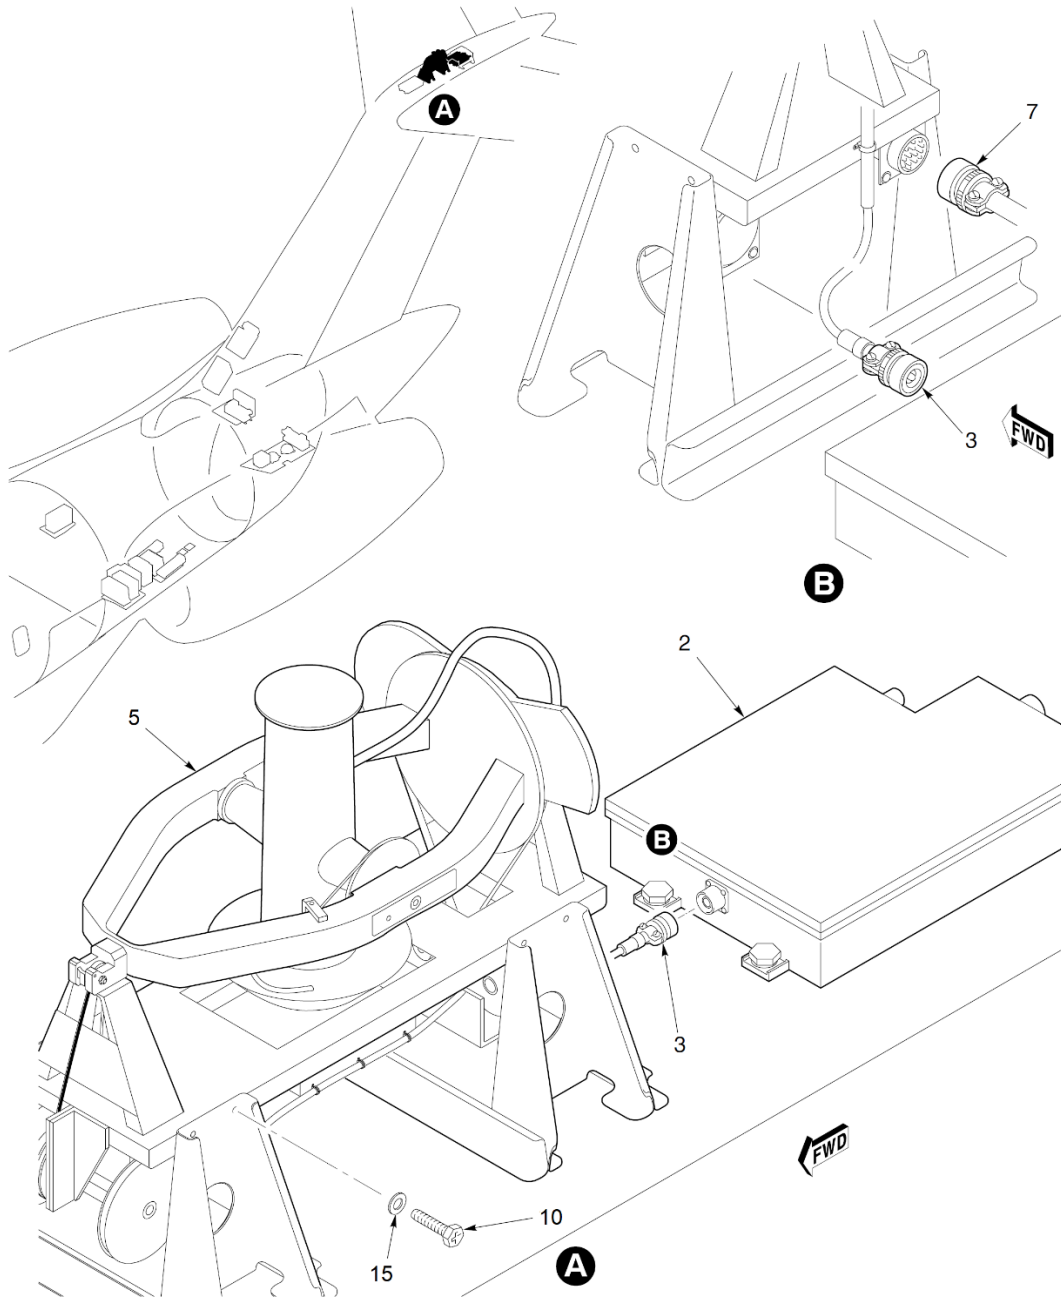
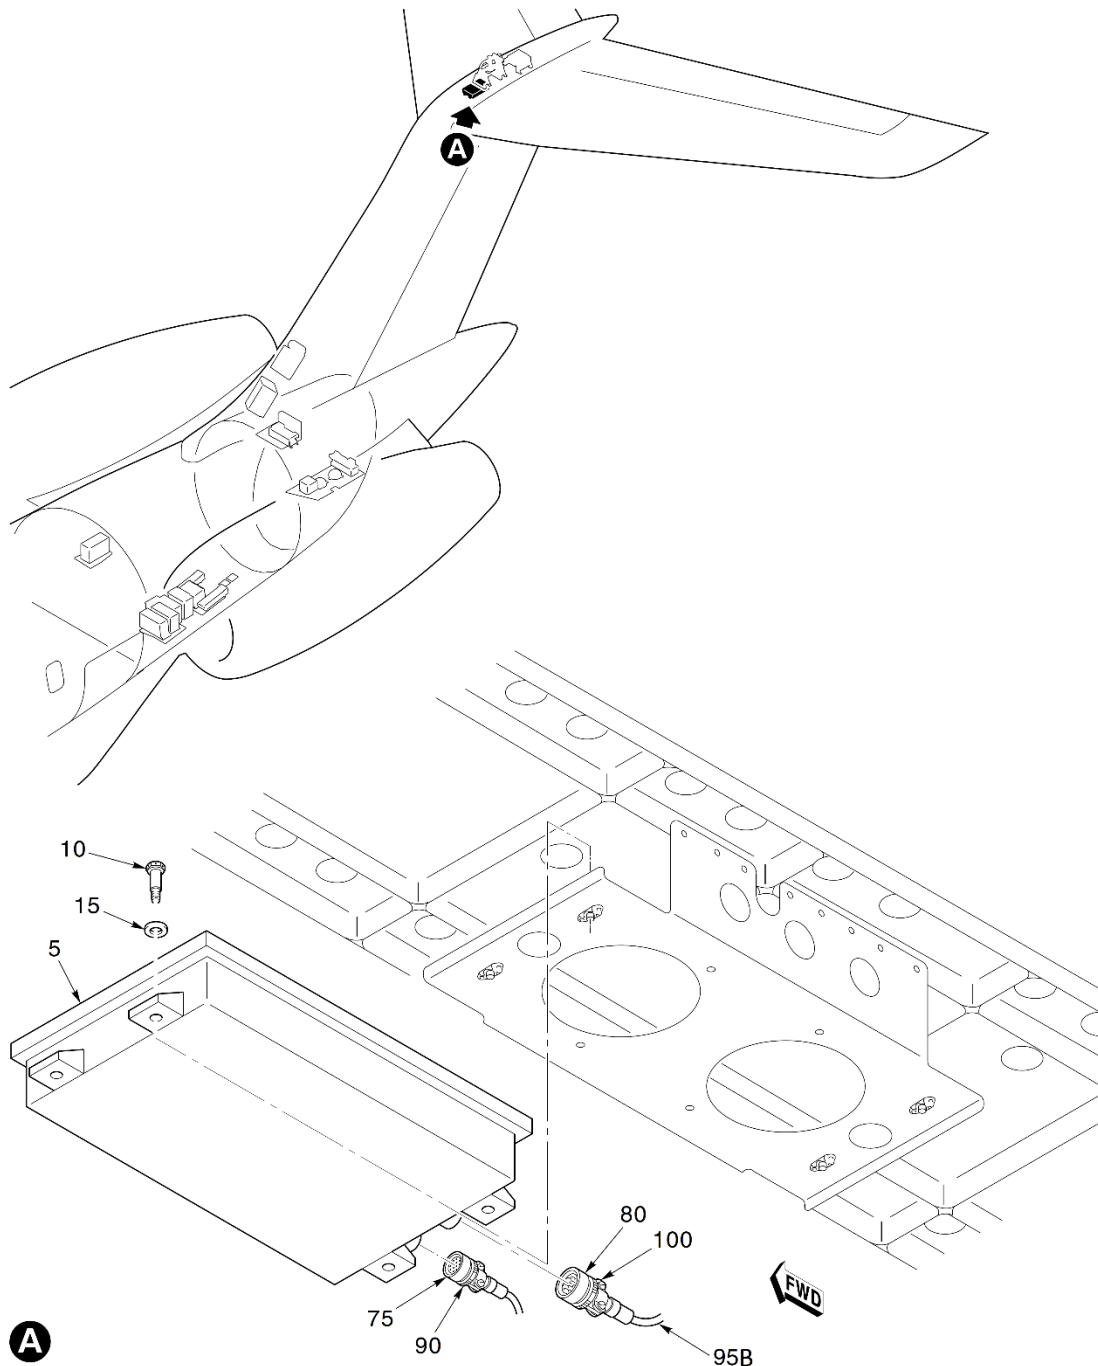
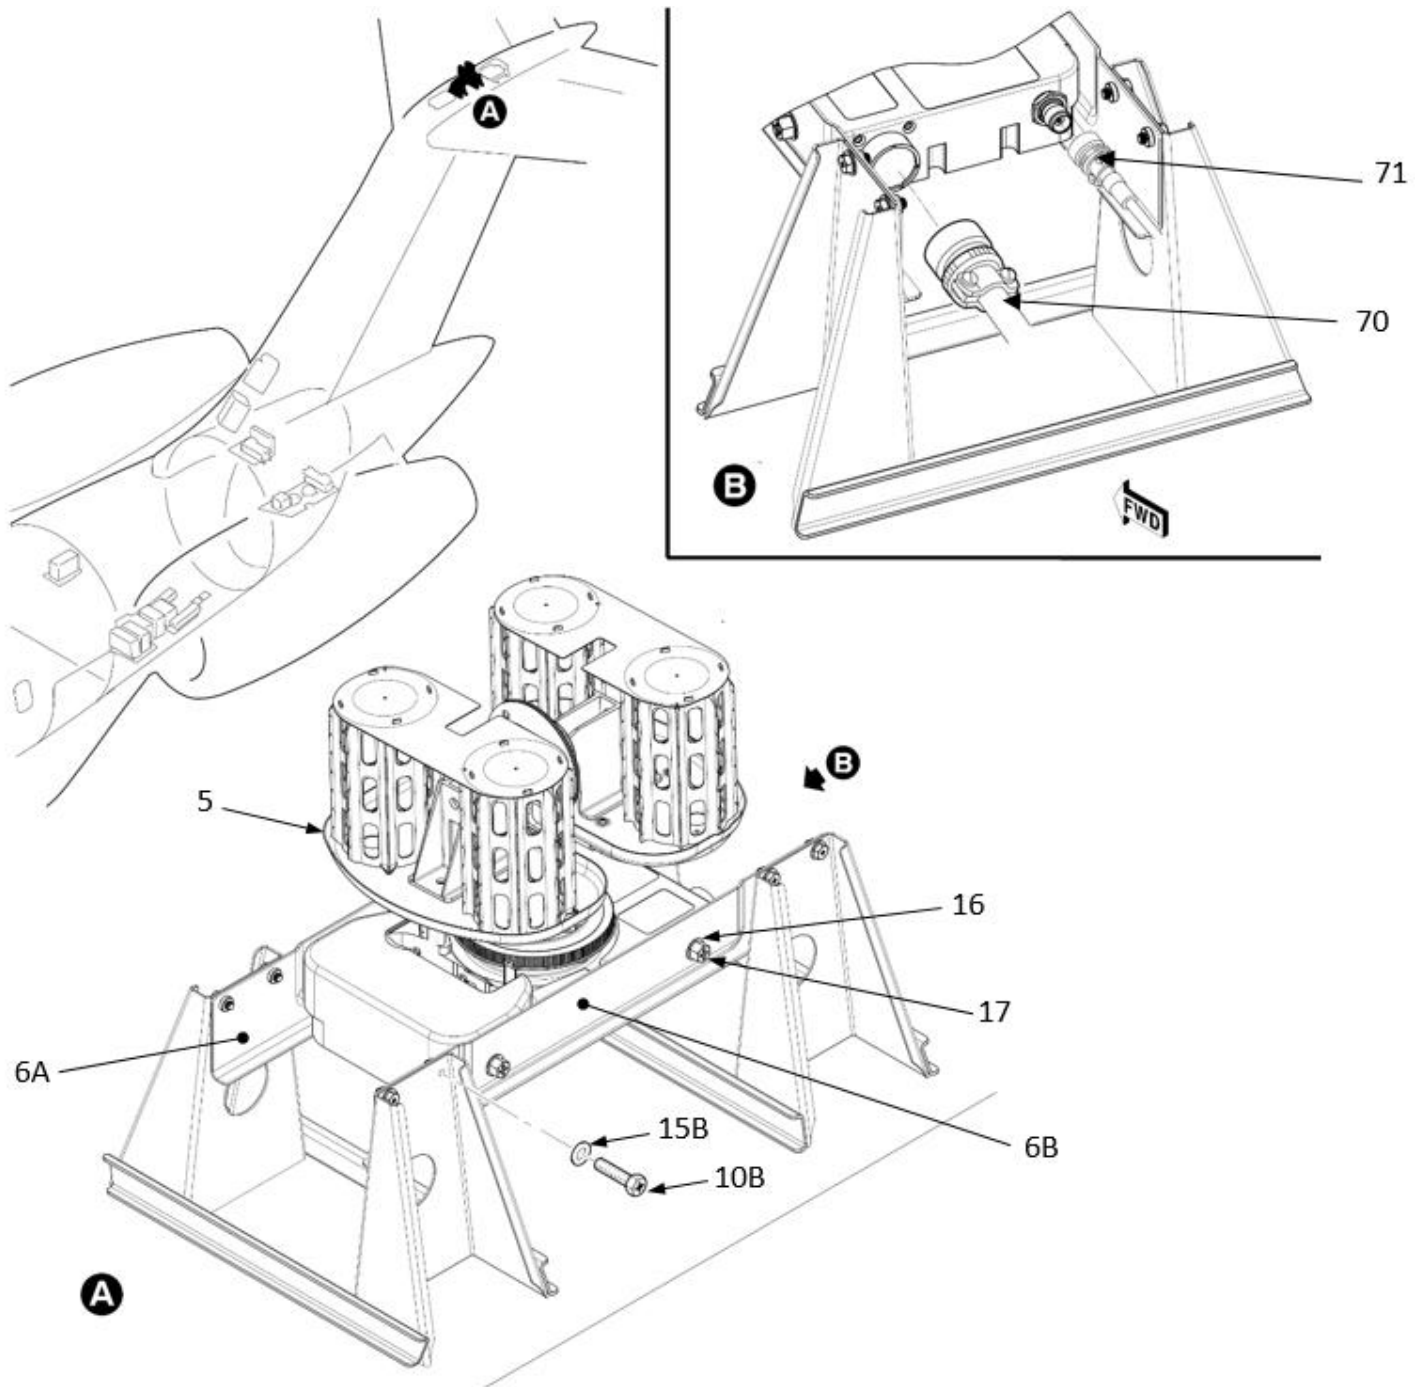
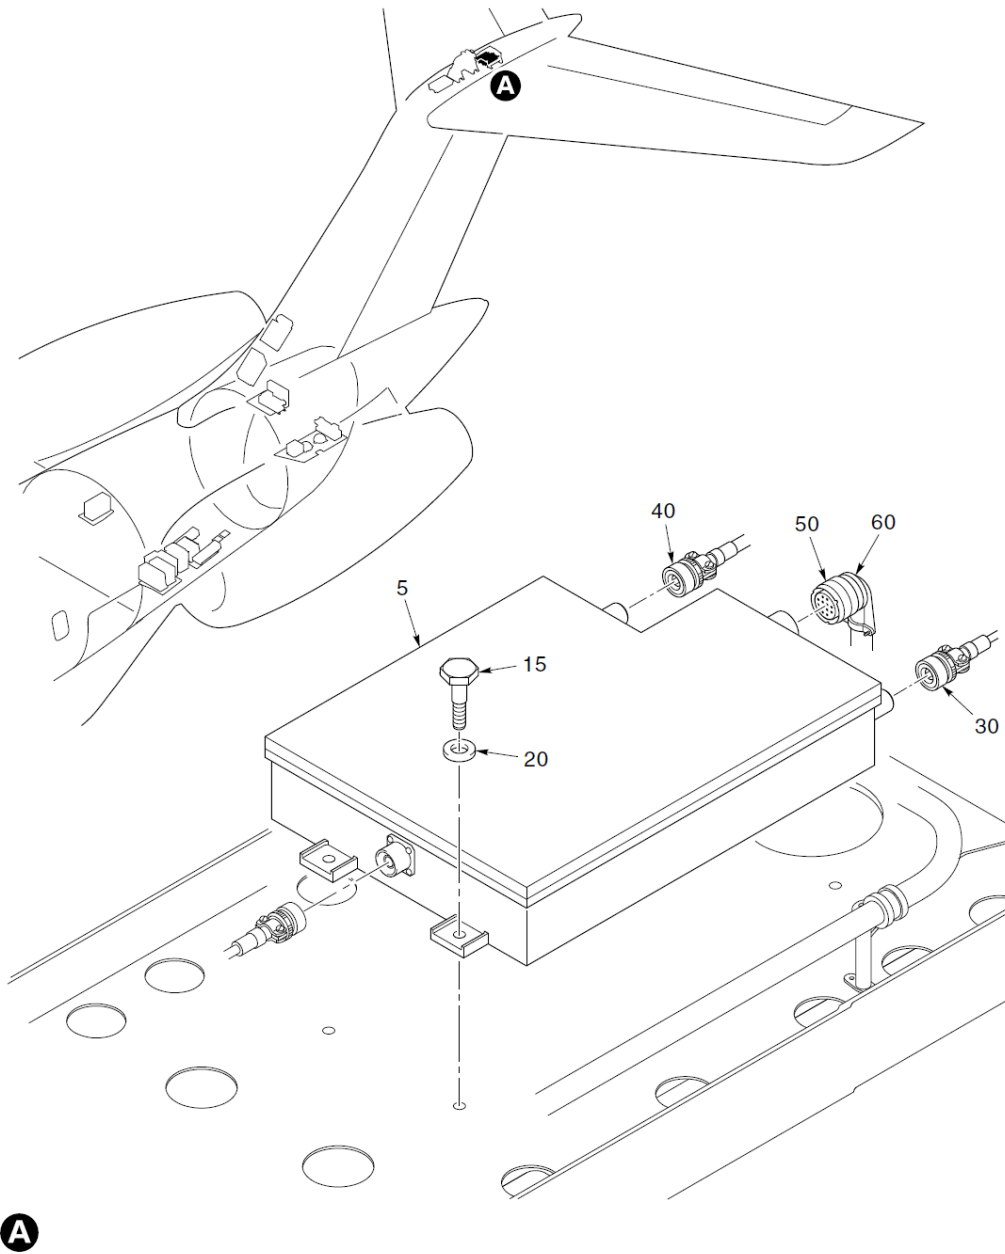

Figure 1: Original Antenna Removal in Vertical stabilizer tip – **FOR ILLUSTRATION ONLY**
Figure 2: ACU in Vertical stabilizer tip – FOR ILLUSTRATION ONLY
Figure 3: Assembly Installation in Vertical stabilizer tip – **FOR ILLUSTRATION ONLY**
Figure 4: DLNA in Vertical stabilizer tip – **FOR ILLUSTRATION ONLY**
Suitable configuration of the mounting of the AMT 50 antenna (see example of suitable configuration on Figure 1)
5.2.2 Disconnect existing connector (Figure 2, Item Number 80) from ACU port labeled J2.
5.2.3 Disconnect existing connector (Figure 4, Item Number 50) from port J4 of the DLNA (Figure 1, Item Number 2).
5.2.4 Disconnect existing connector (Figure 1, Item Number 7) from port J1 of the AMT 50.
5.2.5 Unscrew and release all cable clamps on several places along the path of the cable (Figure 2, Item Number 95B)
5.2.6 Physically remove the cable (Figure 2, Item Number 95B)
5.2.8 Disconnect existing RF connector from DLNA port labeled J1. (Figure 1, Item Number 3)
5.2.10 Disconnect existing connector (Figure 2, Item Number 75) from ACU port labeled J1.
5.3.1 Identify installation location (see Figure 3 for reference).
5.3.2 Mount Brackets (Item Number 6A and 6B, Figure 3) to Antenna, using screws and washers (Item Numbers 16 and 17 respectively, Figure 3) loosely fitted.
5.3.3 Mount Brackets with Antenna to aircraft structure, using screws and washers (Item Numbers 10B and 15B respectively, Figure 3) loosely fitted. For screws (Item Number 10B) apply small amount of threadlocker.
5.3.4 Torque screws (Item Number 10B, Figure 3) to 36-40 in-lbs / 4.0-4.5 Nm.
5.3.5 Torque screws (Item Number 17, Figure 3) to 75-84 in-lbs / 8.5-9.5 Nm.
5.3.6 Connect Power and Data Cable J3 (Item Number 70, Figure 3) to Antenna J1 (Item Number 5, Figure 3)
5.3.7 Connect Power and Data Cable plug connector J1 (Item Number 70, Figure 3) with existing connector (Figure 2, Item Number 75)
5.3.10 Connect Power and Data Cable connector J2 (Item number 70, Figure 3) to DLNA port labeled J4 (Item number 5, Figure 4). Use existing cable clamps to secure the new cable to the airframe.
5.3.11 Connect Power and Data Cable J2 (Item Number 70, Figure 3) to DLNA J4 (Item Number 5, Figure 4)
5.3.12 Connect RF Cable J2 (Item Number 71, Figure 3) to Antenna J2 (Item Number 5, Figure 3)
5.3.13 Connect RF Cable J1 (Item Number 71, Figure 3) to DLNA J1 (Item Number 5, Figure 4)